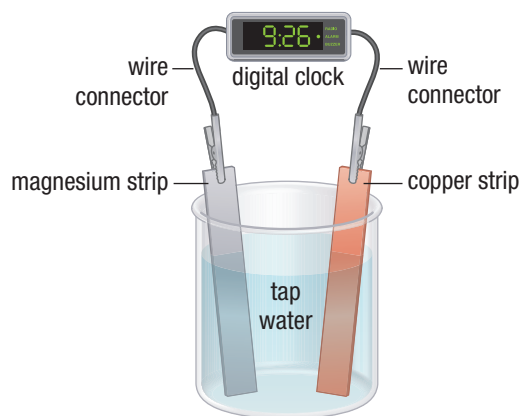

Figure 7
6. A galvanic cell has a magnesium electrode in a 1.0 mol/L magnesium nitrate solution and an iron electrode in a 1.0 mol/L iron(II) nitrate solution. **T/I C**
7. **Figure 7** shows a galvanic cell that consists of magnesium and copper electrodes in tap water. This cell generates enough electrical energy to operate a small digital clock. **K/U T/I C**
- (d) The cell in Figure 7 works well with tap water but not with distilled water. Why do you think the type of water that is used makes a difference?